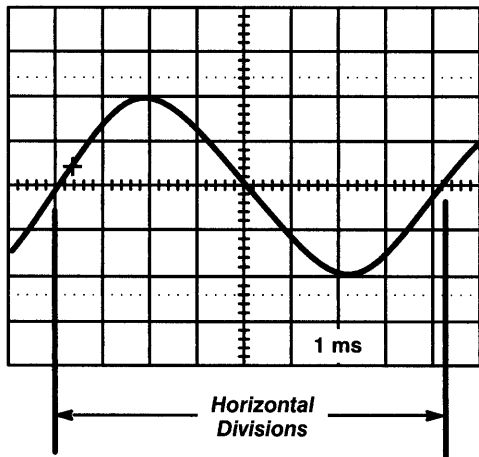

Figure A-4: Measuring Time
- Step 1:** Position the waveform so that its center crosses the vertical center of the screen, as shown in Figure A-4. Use the horizontal center line to help you.
For example, one period of the sine wave in Figure A-4 occupies 8 major divisions and 1 minor division. Each minor division is one-fifth, or 0.2 of a major division. Therefore the waveform period is 8.2 major divisions. The horizontal scale factor, as indicated in the bottom right, is 1 ms per division. Therefore, one waveform period is  $1 \times 8.2 = 8.2$  ms.